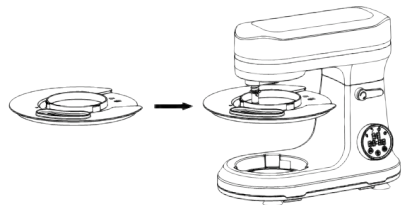

Figure 1
- Rotate the cover clockwise until you hear a "click" sound, indicating it is locked in place. Refer to Figure 1 for visual guidance.